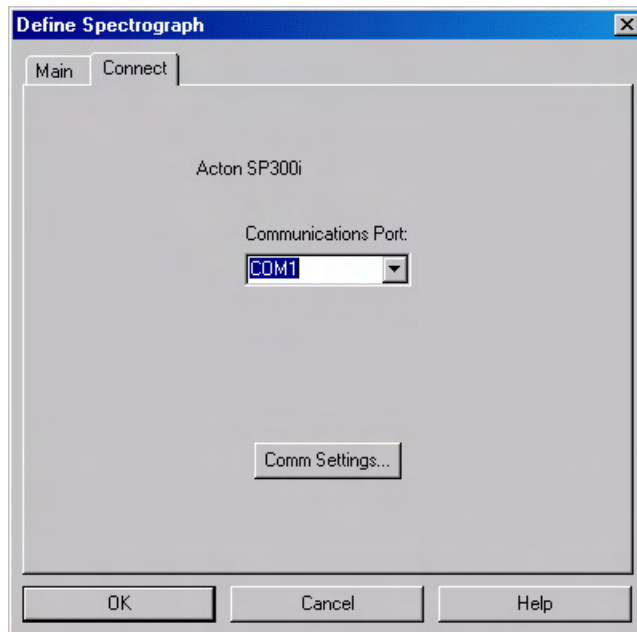
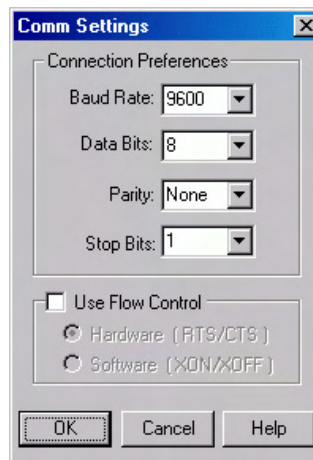

Figure 29. Connect tab page
Figure 30. Comm Settings dialog box
4. Click on **Comm Settings** (Figure 29). This will open the Comm Settings dialog box as shown in Figure 30.